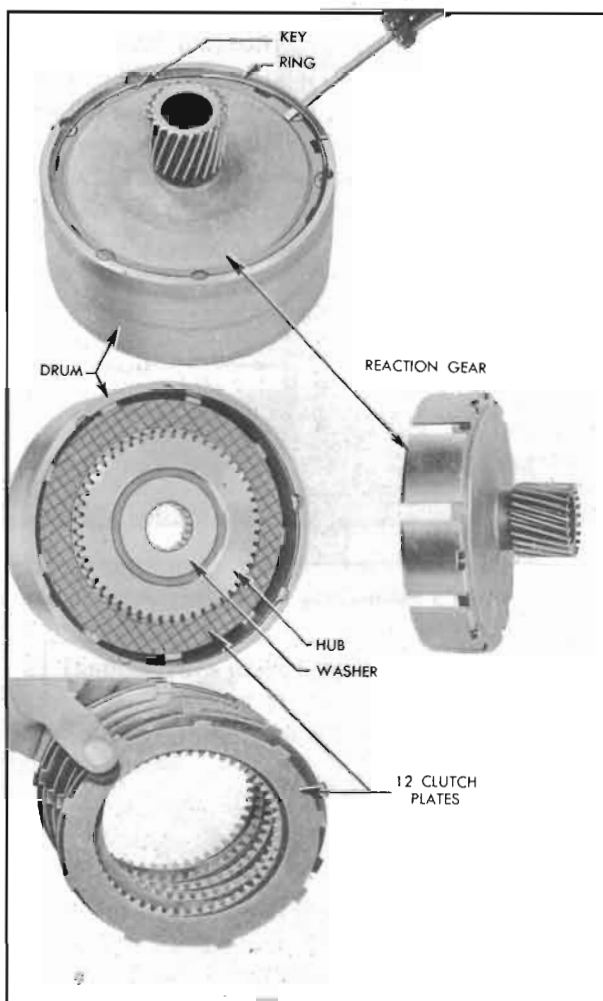

Figure 5-80—Removal of Reaction Gear, Hub, and Plates
1. Remove reaction gear flange retainer ring with screwdriver and remove the 6 flange driving keys with pointed tool. See figure 5-80.
2. Remove the low range reaction gear, thrust washer, clutch hub, and 12 clutch plates from drum. See figure 5-80.